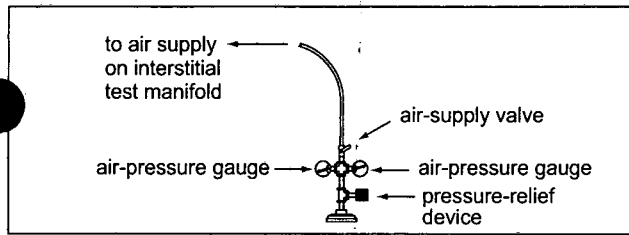

FIGURE 3-2
1.3.1.7. a test manifold for each air-testable tank or compartment—see *FIGURE 3-2*
3.4.3. Construct a test manifold with two pressure gauges as shown in *FIGURE 3-2*. Each pressure gauge must have a maximum full-scale reading of 15 psig with graduations in 1/2 psig increments, and a pressure-relief valve set at 6 psig (4 psig for 12-foot-diameter tanks).
3.4.3.1. When air testing multicompartiment tanks, a test manifold is needed for each compartment. See *FIGURE 3-2*.
3.4.3.2. A test manifold is needed for testing the dry interstitial space of an air-testable, double-wall tank. See FIGURE 3-2.